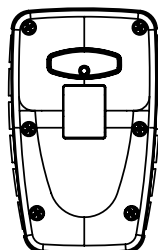

Figure 9. Back side of the cover inserted in its position.
1. Open the battery cover by unscrewing the 6 screws on the backside of the transmitter housing (see fig. 9).